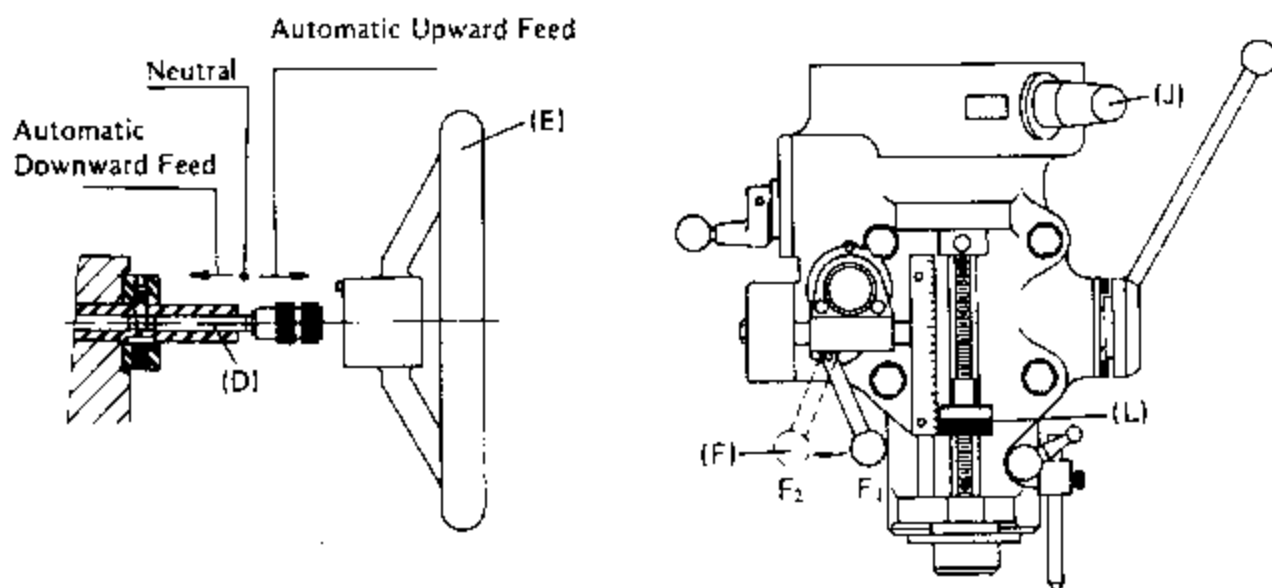

Figure 10
Note: In manual feed, the feed control handle (F) must be placed at position (F1) as shown in (Figure 10.)
To effectuate the manual micromotion feed, the powerfeed transmission engagement crank (J) (Figure 10) shall be placed at "OUT" position, and feed reverse knob (D), at the neutral position.
- e. When the feed reverse knob (D) pressed inward (Figure 10), it is for downward feed, and vice-versa. The middle position is neutral.